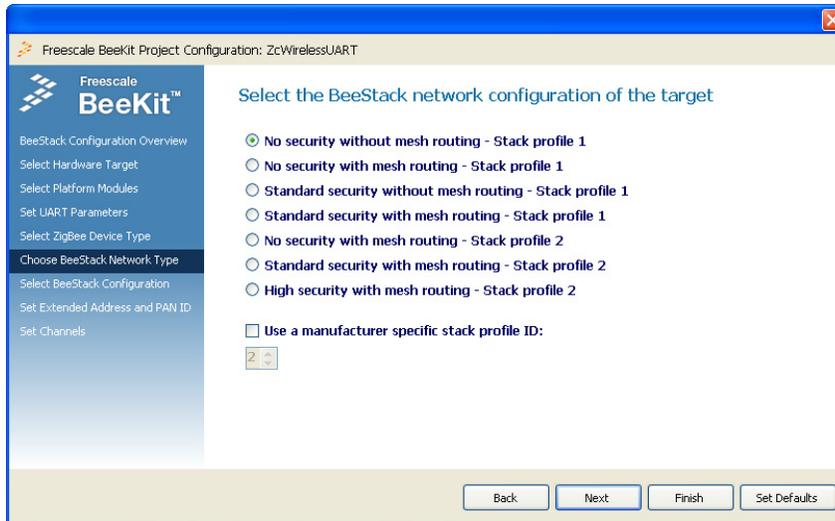

Figure 5-8. BeeStack Network Type Selection Page
7. Click the Next button and the Choose BeeStack Network Type window appears as shown in Figure 5-8. Select the “No security without mesh routing” option.
4. Click the Next button and the Choose BeeStack Network Type window appears. Select the same network type using the same settings used for the Coordinator as shown in Figure 5-8. (No security without mesh routing).